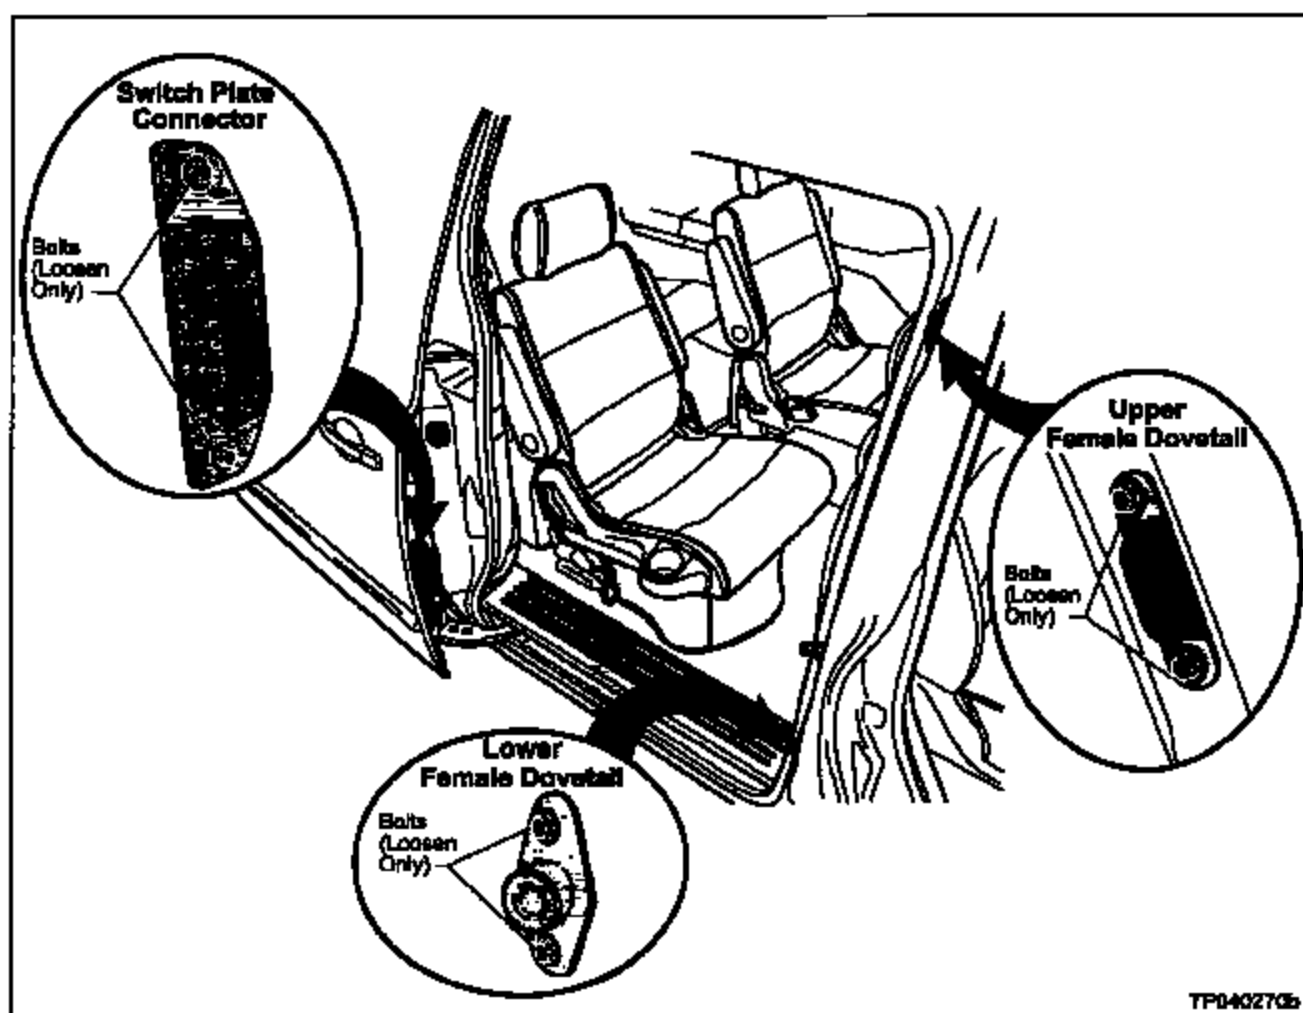

Figure J32
- Upper and lower Female Dovetails Bolts to 6.8 – 10.8 N-m (5 – 8 ft-lb). See Figure J32.
- Switch Plate Connector Bolts to 6.8 – 10.8 N-m (5 – 8 ft-lb). See Figure J32.